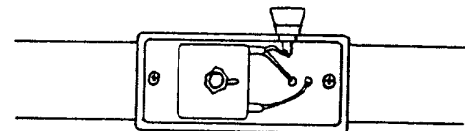

FIGURE 4
17. Now solder one end of the coil to one tab of the VC, and the other end to the other tab. Also, solder a short length of wire to either one of the tabs or to the washer tab on the shaft of the VC (if yours came with one). See Figure 4.